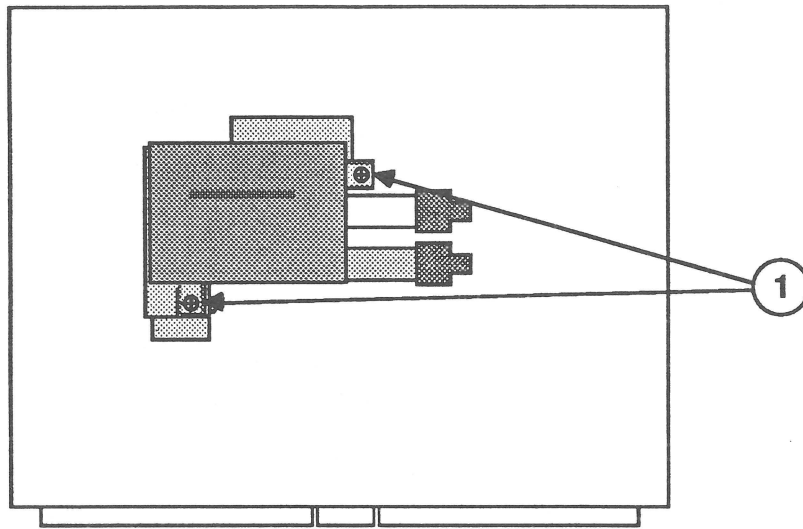

FIGURE 32
10. Remove the two screws (Figure 32, #1) that secure the high-voltage capacitor to its bracket on the screen. Lift off the high-voltage capacitor.
1. Place the high-voltage capacitor over its bracket on the bottom screen and replace the two screws (Figure 32, #1).